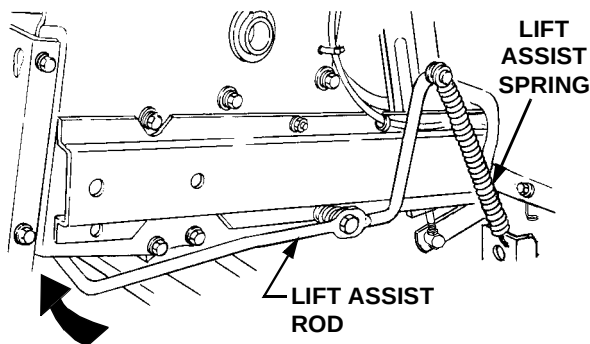

Figure 57
11. Tension the spring by pushing downward and then inward on the rear of the lift assist rod, so that the flange at the rearward end of the rod is inside the tractor frame (See Figure 57).